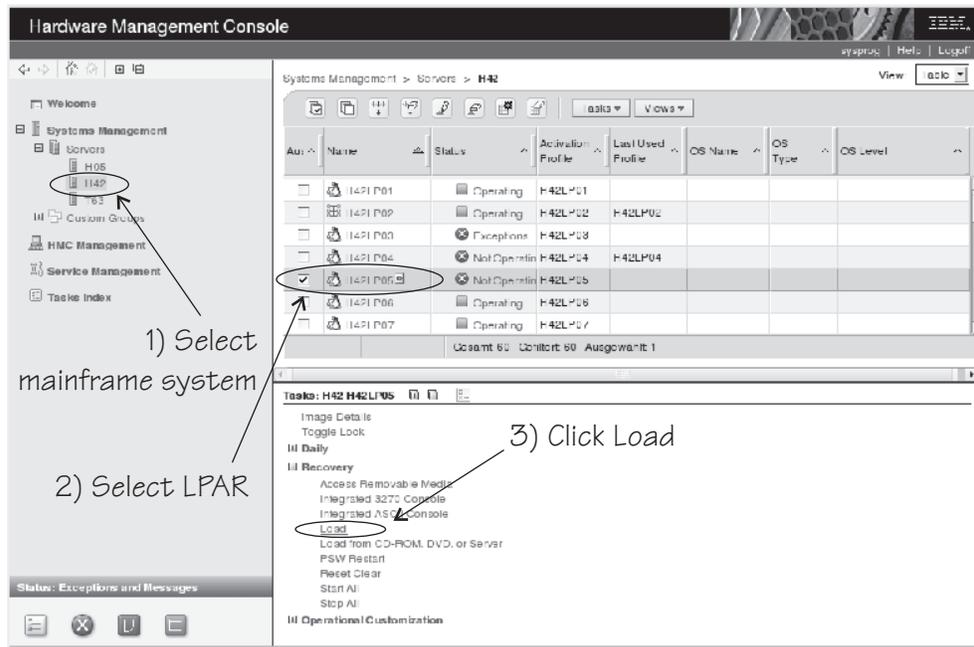

Figure 64. Load task on the HMC
3. In the **Tasks** area, expand **Recovery** and click **Load** (see Figure 64 on page 334).